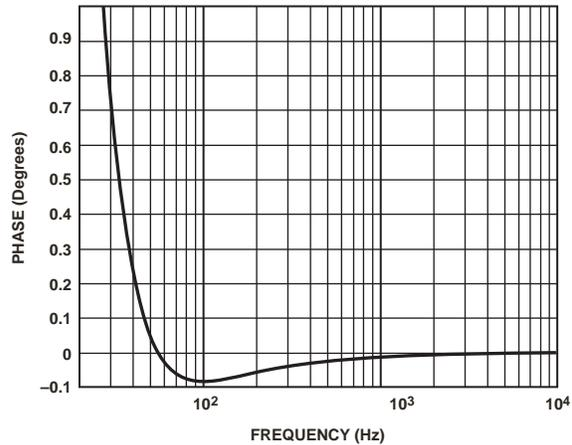
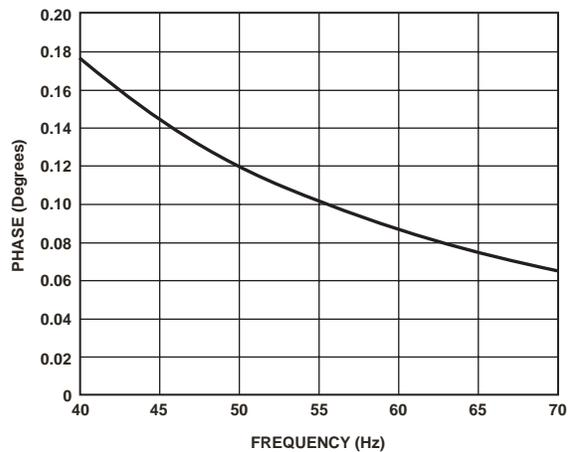
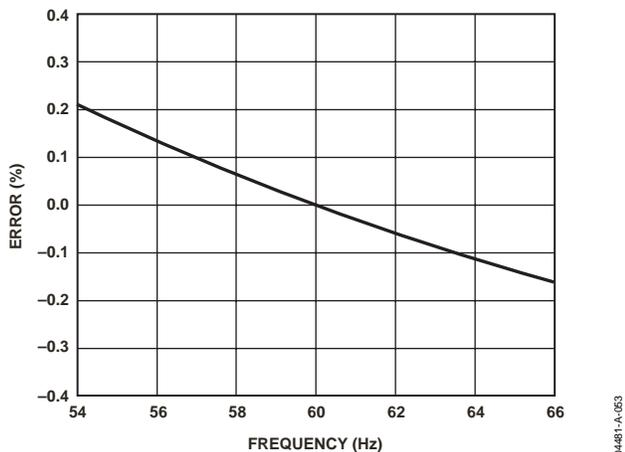

Figure 50. Combined Phase Response of HPF and Phase Compensation (10 Hz to 1 kHz)
Figure 51. Combined Phase Response of HPF and Phase Compensation (40 Hz to 70 Hz)
Figure 52. Combined Gain Response of HPF and Phase Compensation
When the HPF is disabled, the phase error between Channel 1 and Channel 2 is 0 from dc to 3.5 kHz. When HPF is enabled, Channel 1 has the phase response illustrated in Figure 50 and Figure 51. Figure 52 shows the magnitude response of the filter. As seen from the plots, the phase response is almost 0 from 45 Hz to 1 kHz, which is all that is required in typical energy measurement applications. However, despite being internally phase-compensated, the ADE7763 must work with transducers, which could have inherent phase errors. For example, a phase error of 0.1° to 0.3° is not uncommon for a current transformer (CT). Phase errors can vary from part to part and must be corrected in order to perform accurate power calculations. The errors associated with phase mismatch are particularly noticeable at low power factors. The ADE7763 provides a means of digitally calibrating these small phase errors by allowing a short time delay or time advance to be introduced into the signal processing chain to compensate for these errors. Because the compensation is in time, this technique should only be used for small phase errors in the range of 0.1° to 0.5°. Correcting large phase errors using a time shift technique can introduce significant phase errors at higher harmonics.